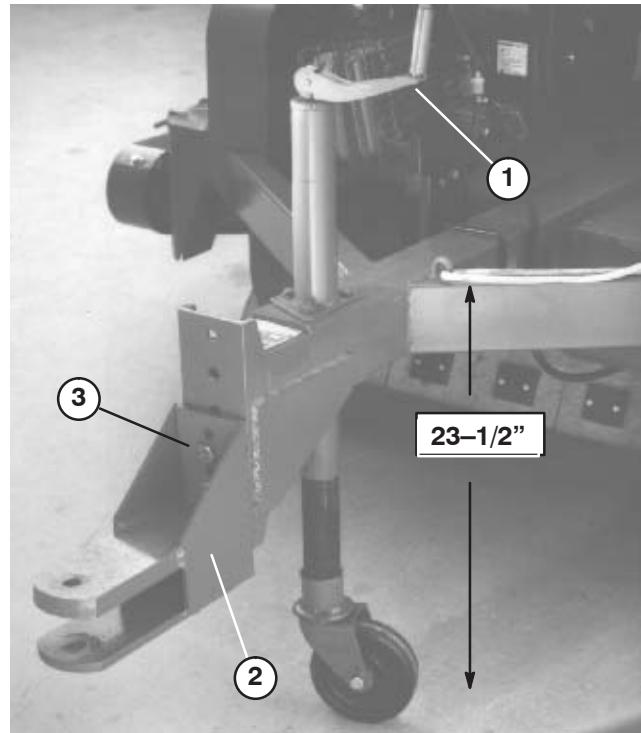

Figure 2
3. Adjust sweeper jack so distance from top of frame to ground is approximately 23-1/2" (Fig. 2).
- Remove capscrews and locknuts securing hitch tongue to frame (Fig. 2).
- Raise or lower hitch tongue to position approximately level with prime move hitch and secure with (2) capscrews and locknuts.